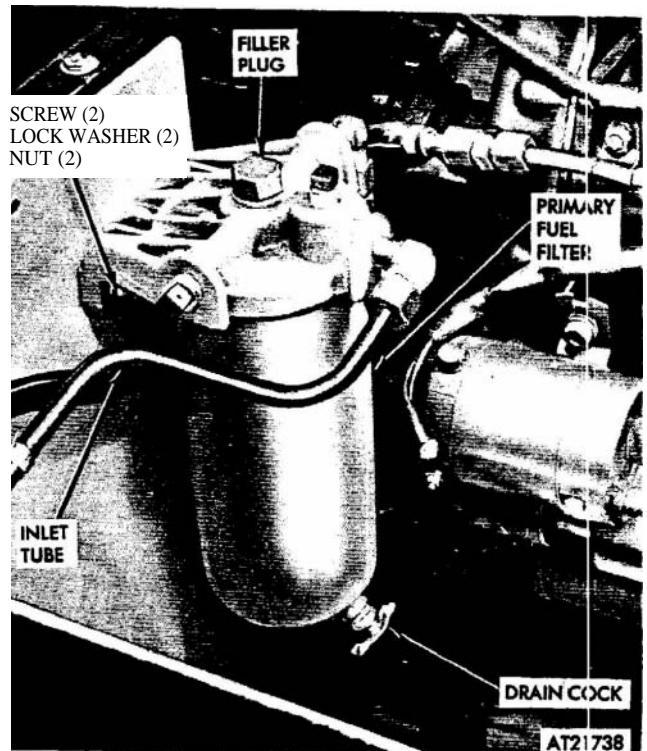

Figure 2-86. Primary fuel filter.
(1) Open and secure engine cover (refer to TM 9-2320-242-10).
(2) Place a suitable container under fuel filter. Loosen filler plug, open draincock, and allow fuel to drain. Close draincock, install filler plug, and tighten finger-tight (fig 2-86).
(1) Attach primary fuel filter assembly to firewall with two screws, lock washers, and nuts (fig 2-86).
(2) Apply thin teflon tape (MIL-T-27730A) to threads of two filter cover fittings. Install fittings to filter cover.
(3) Connect inlet-outlet tubes to fittings and secure by tightening nuts on tubes.
(4) Remove filler plug and fill filter with fuel. Install and tighten filler plug. Ensure that draincock is tight.
(1) Open and secure engine cover (refer to TM 9-2320-242-101).
(2) Place a suitable container under primary fuel filter. Loosen filler plug, open draincock, and allow fuel to drain (fig 2-86).
(1) Insert new cover screw gasket under head of cover screw (fig 2-86).
(2) Insert filter element into shell and insert gasket in recessed rim of shell.
(3) Attach shell to cover and secure with cover screw. Ensure that cover screw and shell gaskets are in place.